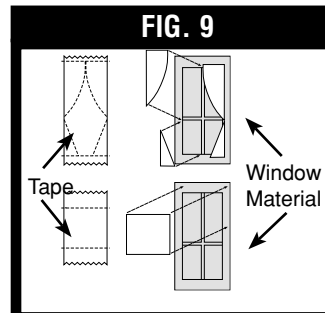

FIG. 9
2. After window material is glued in place, cut curtains and shades from strips of masking tape as shown in Fig. 9. Pieces can be cut slightly larger than window panes. Position curtain pieces over window material on the inside of walls as shown. See photo on box for suggested placement.